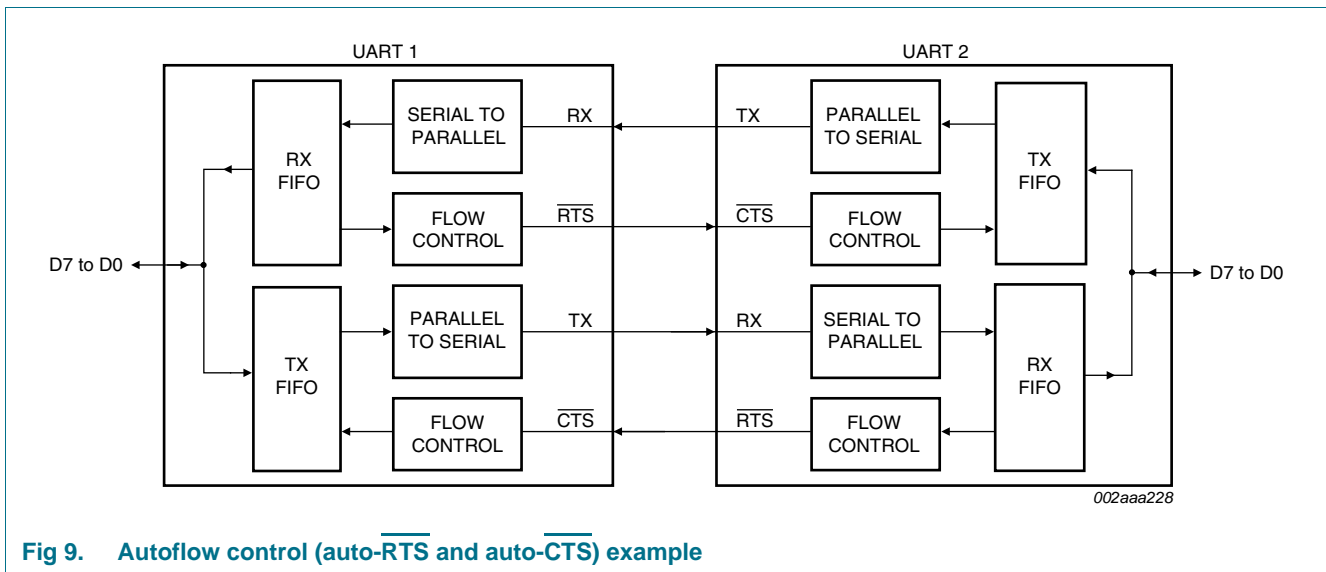

Fig 9. Autoflow control (auto- $\overline{\text{RTS}}$  and auto- $\overline{\text{CTS}}$ ) example
6.4 Autoflow control (see Figure 9)
6.4.1 Auto- $\overline{\text{RTS}}$  (see Figure 9)
6.4.2 Auto- $\overline{\text{CTS}}$  (see Figure 9)